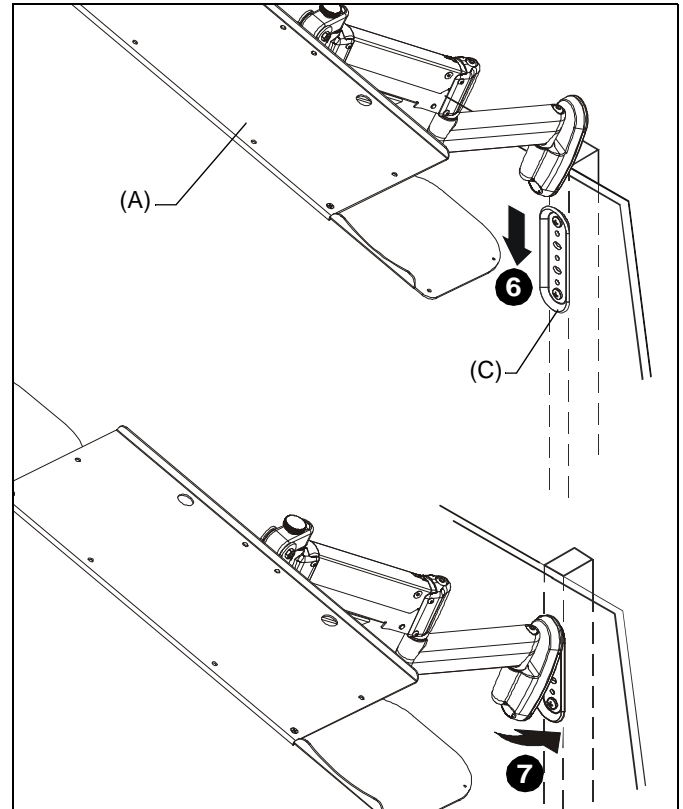

Figure 2
6. Insert top of KWK-110 (A) over lip at top of wall plate (C). (See Figure 2)
7. Swing KWK-110 down flush against wall. (See Figure 2)